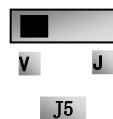

Fig 4-8
(12) Analog output terminal AO2 can only output current signal, AO1 terminal can output voltage and current signal, the selecting switch is J5, please refer to Fig 4-8, the output relation is shown in table 4-4.